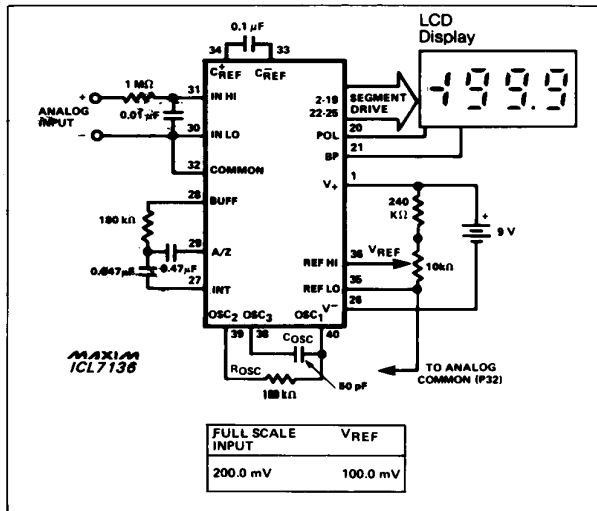

Figure 2. Maxim ICL7136 Typical Operating Circuit
**Note 6:** 48kHz oscillator, Figure 2, increases current by 20µA (typ).